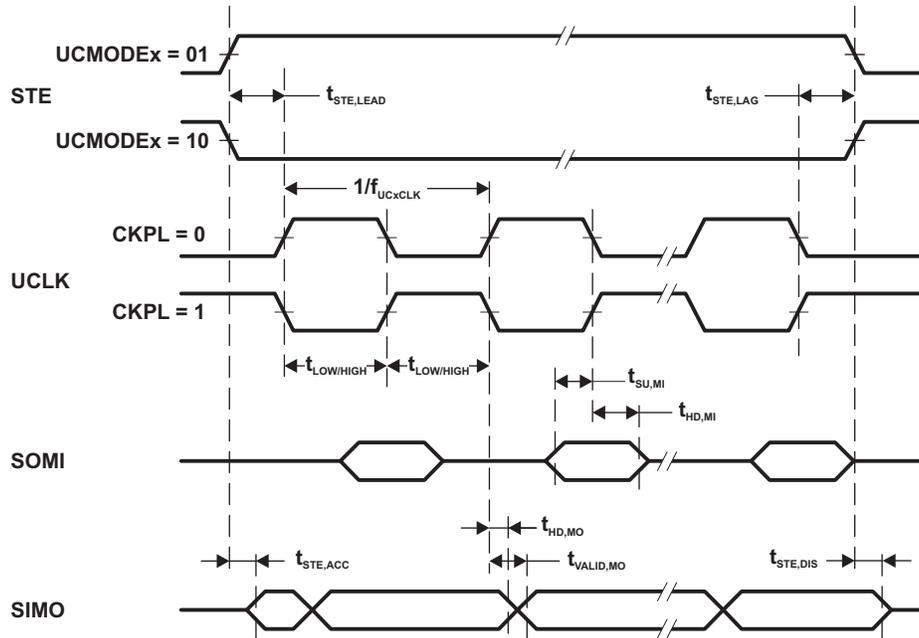
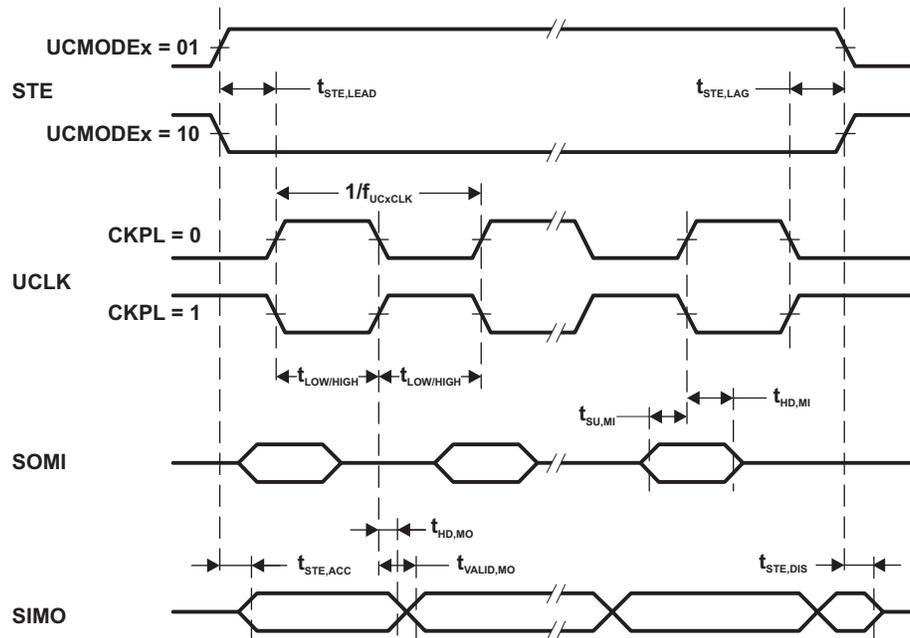

Figure 5-3. SPI Master Mode, CKPH = 0
Figure 5-4. SPI Master Mode, CKPH = 1
- (2) Specifies the time to drive the next valid data to the SIMO output after the output changing UCLK clock edge. Refer to the timing diagrams in Figure 5-3 and Figure 5-4.
- (3) Specifies how long data on the SIMO output is valid after the output changing UCLK clock edge. Negative values indicate that the data on the SIMO output can become invalid before the output changing clock edge observed on UCLK. Refer to the timing diagrams in Figure 5-3 and Figure 5-4.